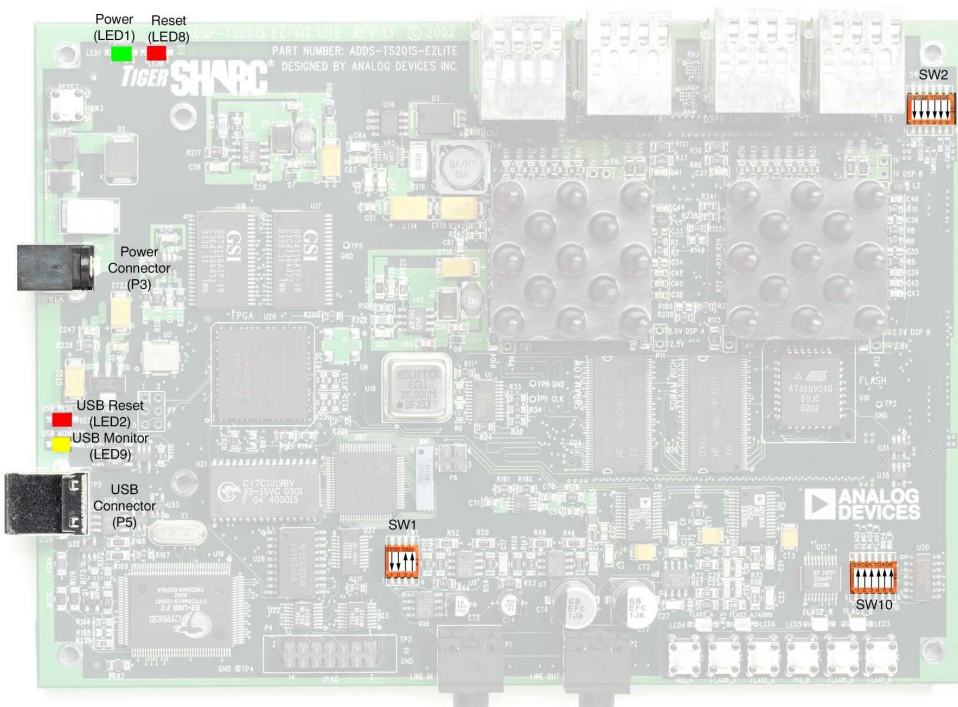

Figure 1-1. EZ-KIT Lite Hardware Setup
Figure 1-1 shows the default jumper settings, DIP switches, connector locations, and LEDs used in installation.
2. Confirm that your board is set up in the default configuration (Figure 1-1) before going to step 3.